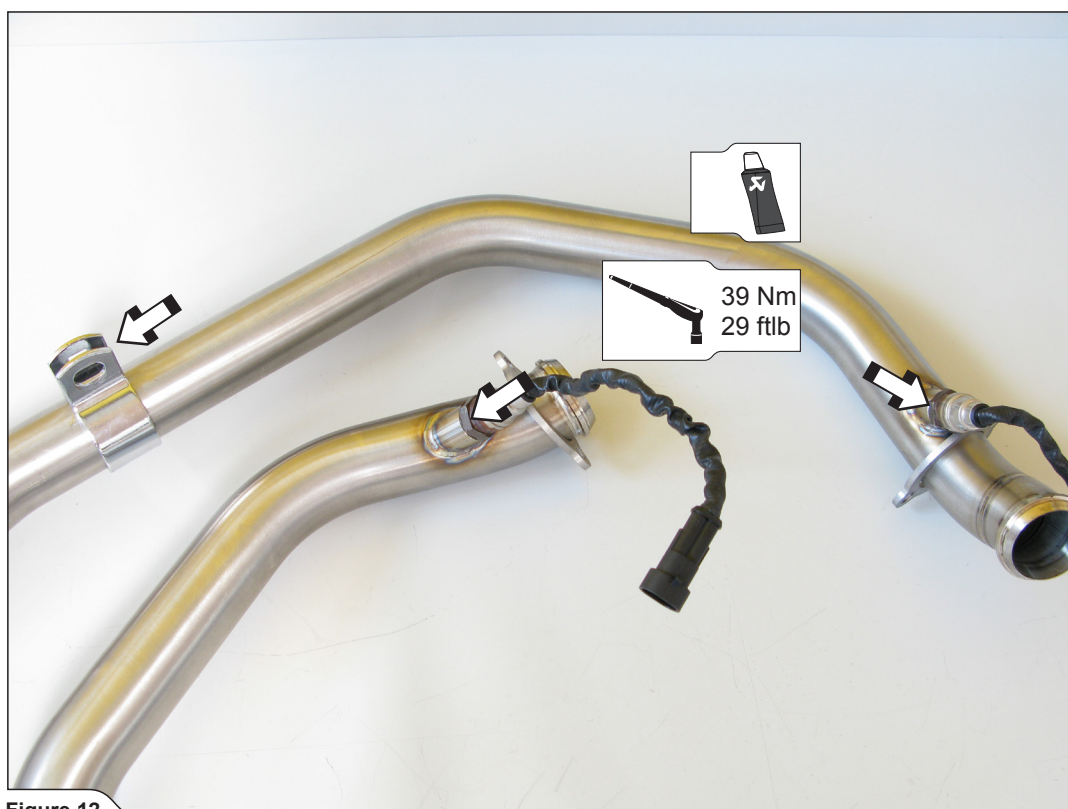

Figure 12
4. Tighten the original lambda sensors into the header pipes and correctly slide the original header clamp onto the front header (Figure 12).